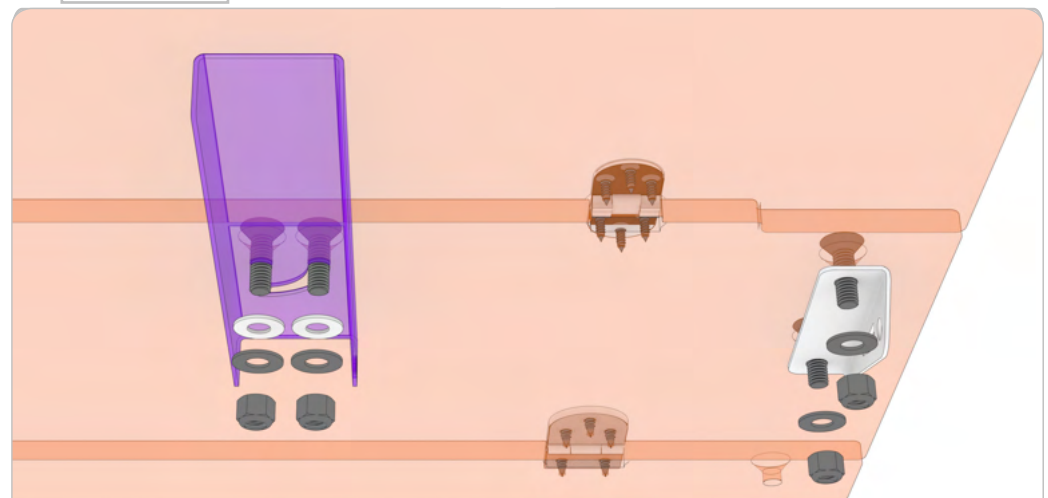

FIG 17
2.6 Attach Strut and Support Brackets to Table Top: Fasten Left and Right Strut Brackets and Left and Right Support Brackets to Folding Table Top using (2ea) 3/8-16 x 1.25 Hex Drive Flat Head Screws, 3/8" Plastic Washers, Flat Washers and Nylon Locknuts [in that order, FIG 17].